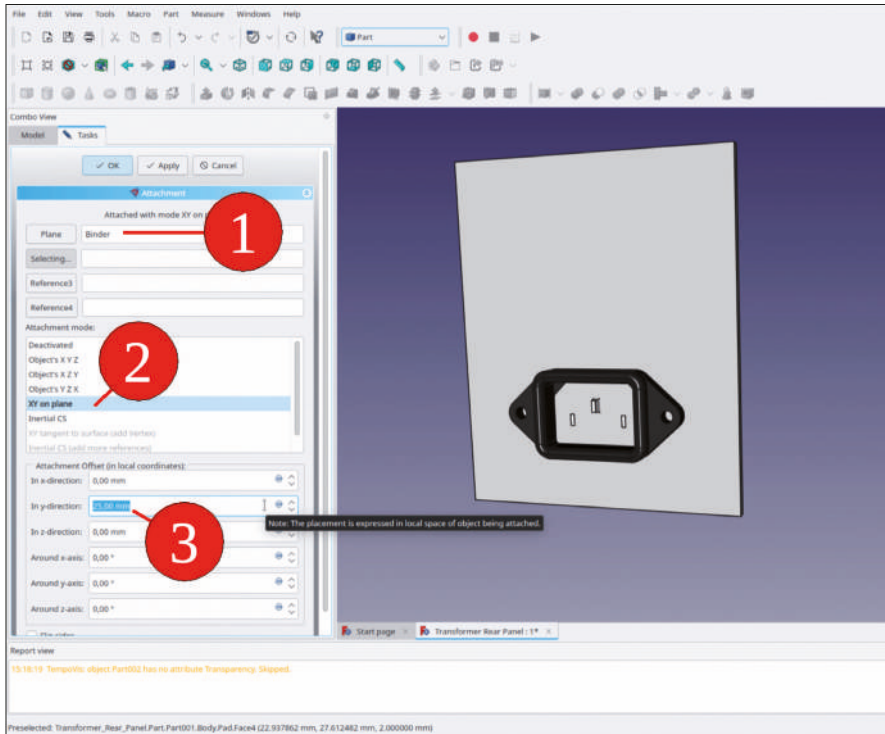

Figure 9-41
2. In the tree view, mark the Std-Part-Container 'IEC Inlet Complete' and switch to the 'Part' workbench. From the main menu, select 'Part | Attachment...'. When the task window opens, the collector for Reference 1 is already activated. Switch to the 'Model' tab, and, in the tree view, click the (hidden, grayed out) shape binder 'Rear Panel Top Face'. Return to the task window and select 'XY on plane' as the attachment mode. For the attachment offset Y, enter a value of 25 mm (Figure 9-41). Close the task window with the 'OK' button.